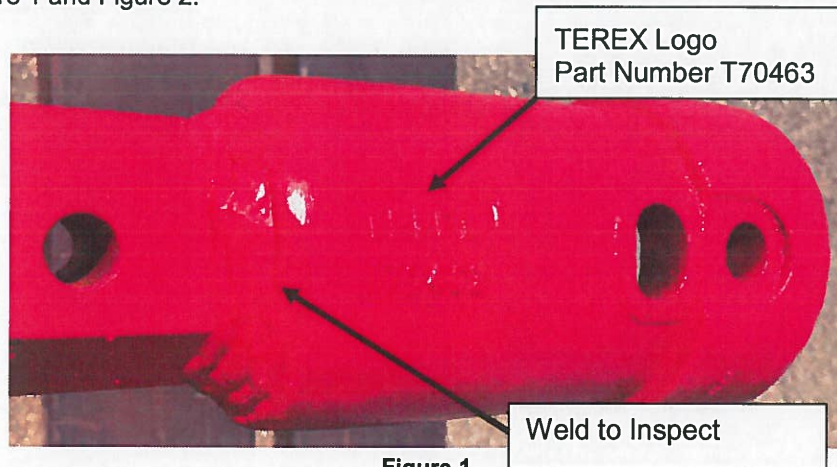
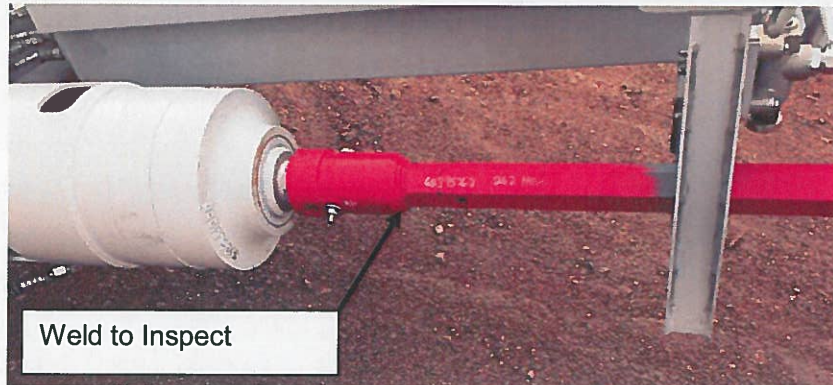

Figure 1
Figure 2
- a. This bulletin applies to one piece kelly bars that have a digger drive coupler welded to the hex shaft and the coupler is marked with TEREX logo and part number T70463 as shown in Figure 1 and Figure 2.
- iii. Send a picture, similar to figure 1, of the suspect kelly bar to Terex warranty at [utilities.warranty@terex.com](mailto:utilities.warranty@terex.com). If the bar is affected, a replacement will be shipped. Include the digger derrick model and serial number with your email.
- ii. Send a picture, similar to figure 1, of the suspect kelly bar to Terex warranty at [utilities.warranty@terex.com](mailto:utilities.warranty@terex.com). If the bar is affected, a replacement will be shipped. Include the digger derrick model and serial number with your email.